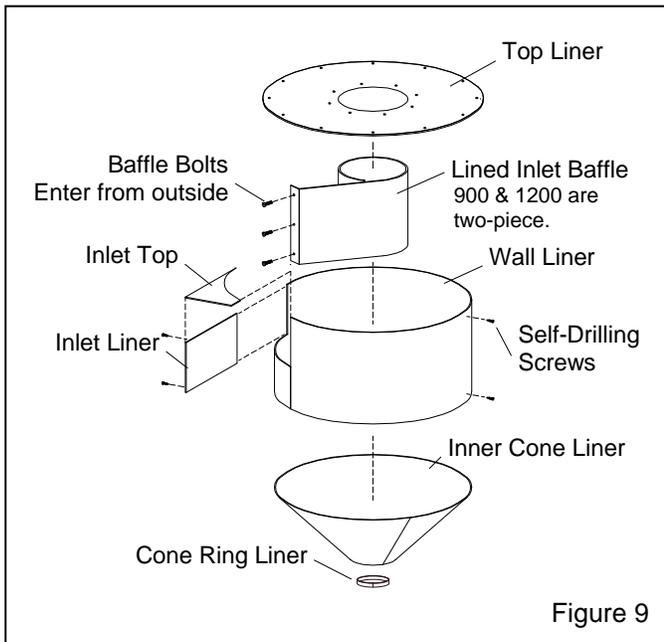

Figure 9
**7.2 Replacing Optional Rubber Liners, Figure 9**